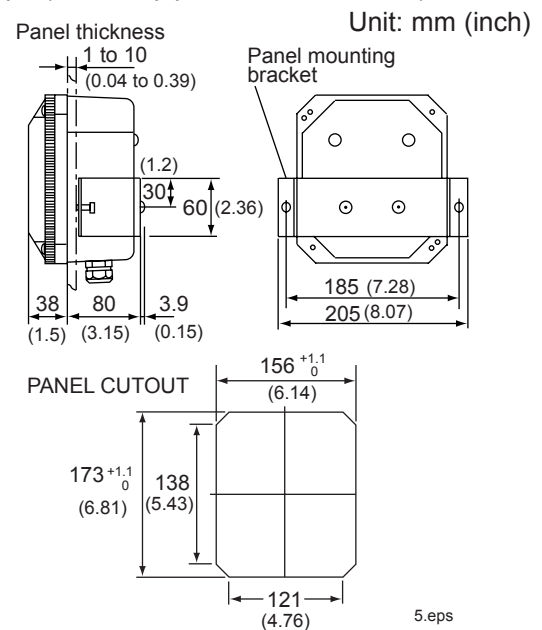

Fig. 3-2a. Panel mounting diagram
- Panel mounting using optional bracket, refer to Fig. 3-2a.